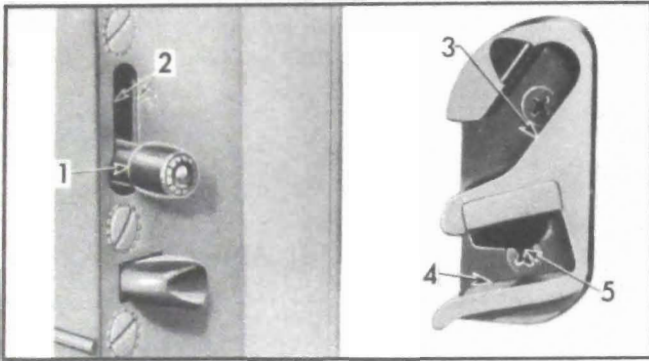

Figure 1-10—Door Lock and Striker
2. *Door Locks and Strikers*. Heavy bodied lubricants usually used on door locks tend to gum up and hinder free movement of the lift bolt type locks. Use only SAE 10 engine oil at points shown in figure 1-10: (1) between roller and bolt (2) edges of bolt slot in door (3) (4) bottom surfaces of both guide channels in striker (5) lower surface of wedge plate bumper. Apply light film and wipe off surplus oil.